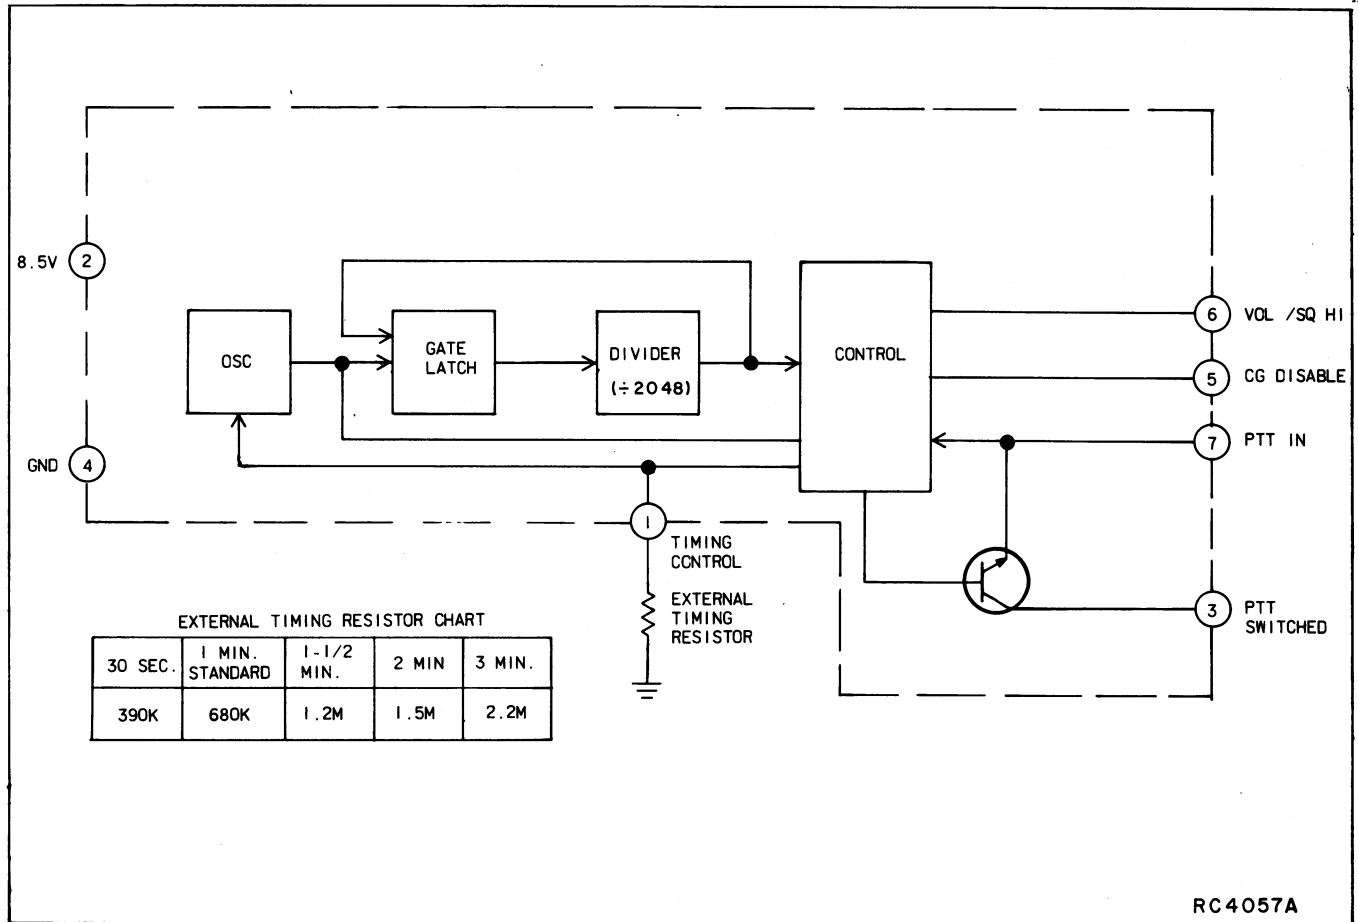

Figure 3 - Simplified Diagram of CCT
The CCT consists of an integrated circuit (IC) and an external timing resistor mounted on the Interconnect/Multi-frequency board. The timing cycle can be set for a duration of 30 seconds to 3 minutes (in five steps) by changing the value of the timing resistor. The CCT is normally shipped from the factory with a one minute timing cycle. A simplified diagram of the CCT with a timing resistor chart is shown in Figure 3.